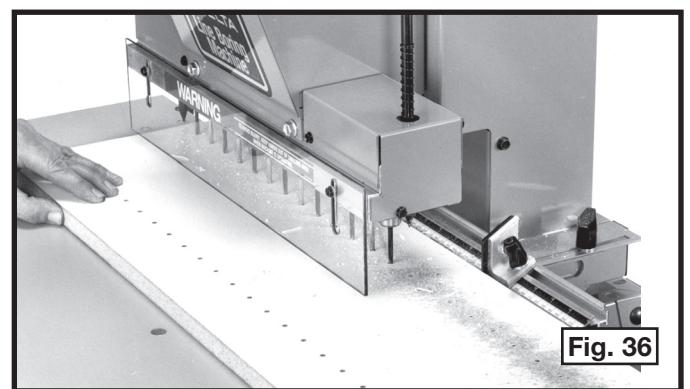

Fig. 36
3. Bore the additional thirteen holes in the workpiece (Fig. 36). All holes are 32 mm apart from each other.